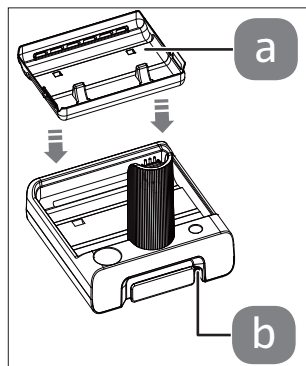

Fig. 4 – Charging station
- ▶ Insert the coaxial power connector of the mains adapter supplied into the connection socket (b) on the back of the charging station ((see Fig. 4)).